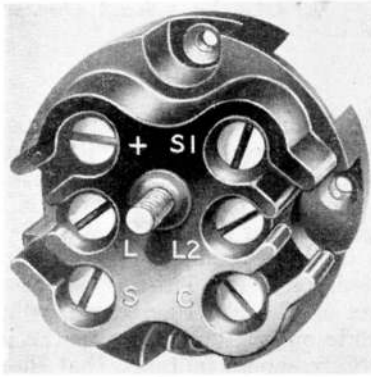
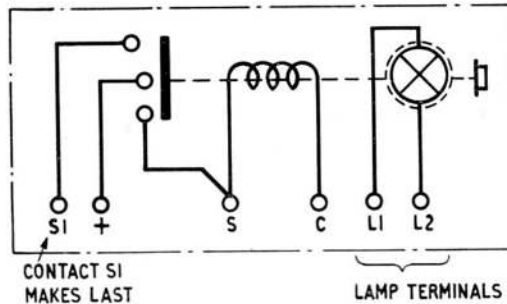

Fig. 4. Terminal block moulding
Fig. 5. Circuit diagram
5. When the plunger is depressed, the contact sleeve makes contact with three leaf spring contacts, two on the inboard end of the terminals marked S and S1, to which the ends of the solenoid coil are attached, and one on the terminal for the positive supply. A circuit diagram is given in *fig. 5*, and a view of the terminal block moulding, in *fig. 4*.